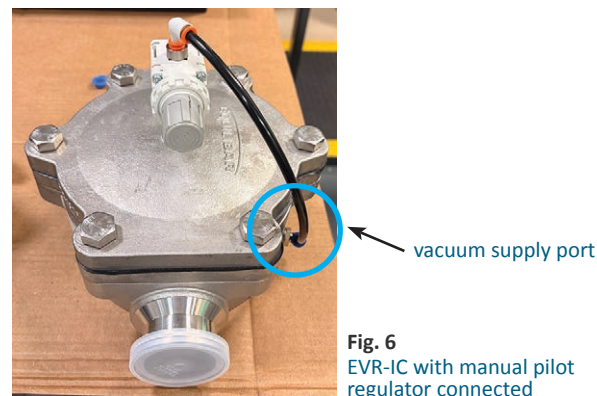

Fig. 6
- Connect the tubing from the port labelled VAC to the vacuum supply port on the side of the EVR-IC. **See Fig. 6**
3. Attach a line from the “E” exhaust port of the EPC or QPV to the vacuum supply port on the side of the EVR-IC (**Fig. 6**).